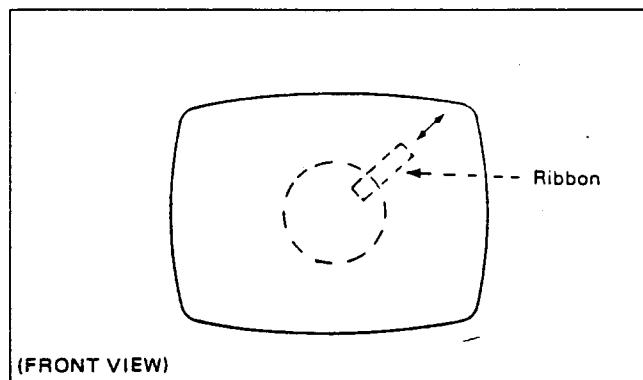

Fig. 9
- Maintaining that position, adjust the depth for inserting the ribbon and correcting the quantity of convergence in order. (Fig. 9)